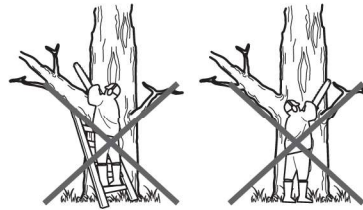

Fig. 31
- > Do not operate the product with your arms fully extended or attempt to saw areas which are difficult to reach or while on a ladder. Never use the product above shoulder height. (Fig. 31).